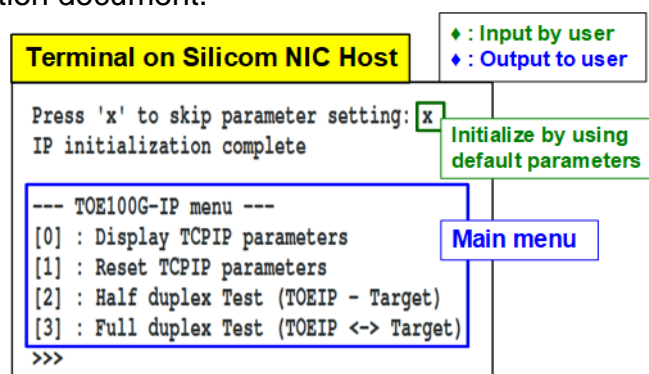

Figure 2-6 Initialization complete
- 6) Wait until the target system completes to prepare the 100G Ethernet connection. After that, enter 'x' to skip parameter setting for using default parameters to begin TOE100G-IP initialization, as shown in Figure 2-6. If the other keys are entered, the menu for changing parameter is displayed, similar to "Reset TCPIP parameters" menu which is described in the demo instruction document.